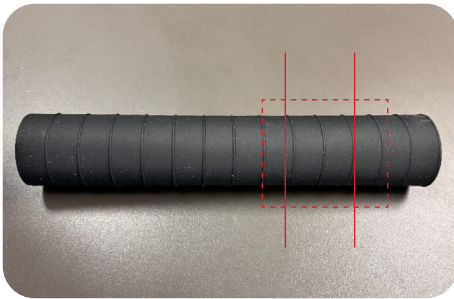

Figure 9
1. After identifying the proper cutting lines, mark the two sections on the grommet. (Figure 9)